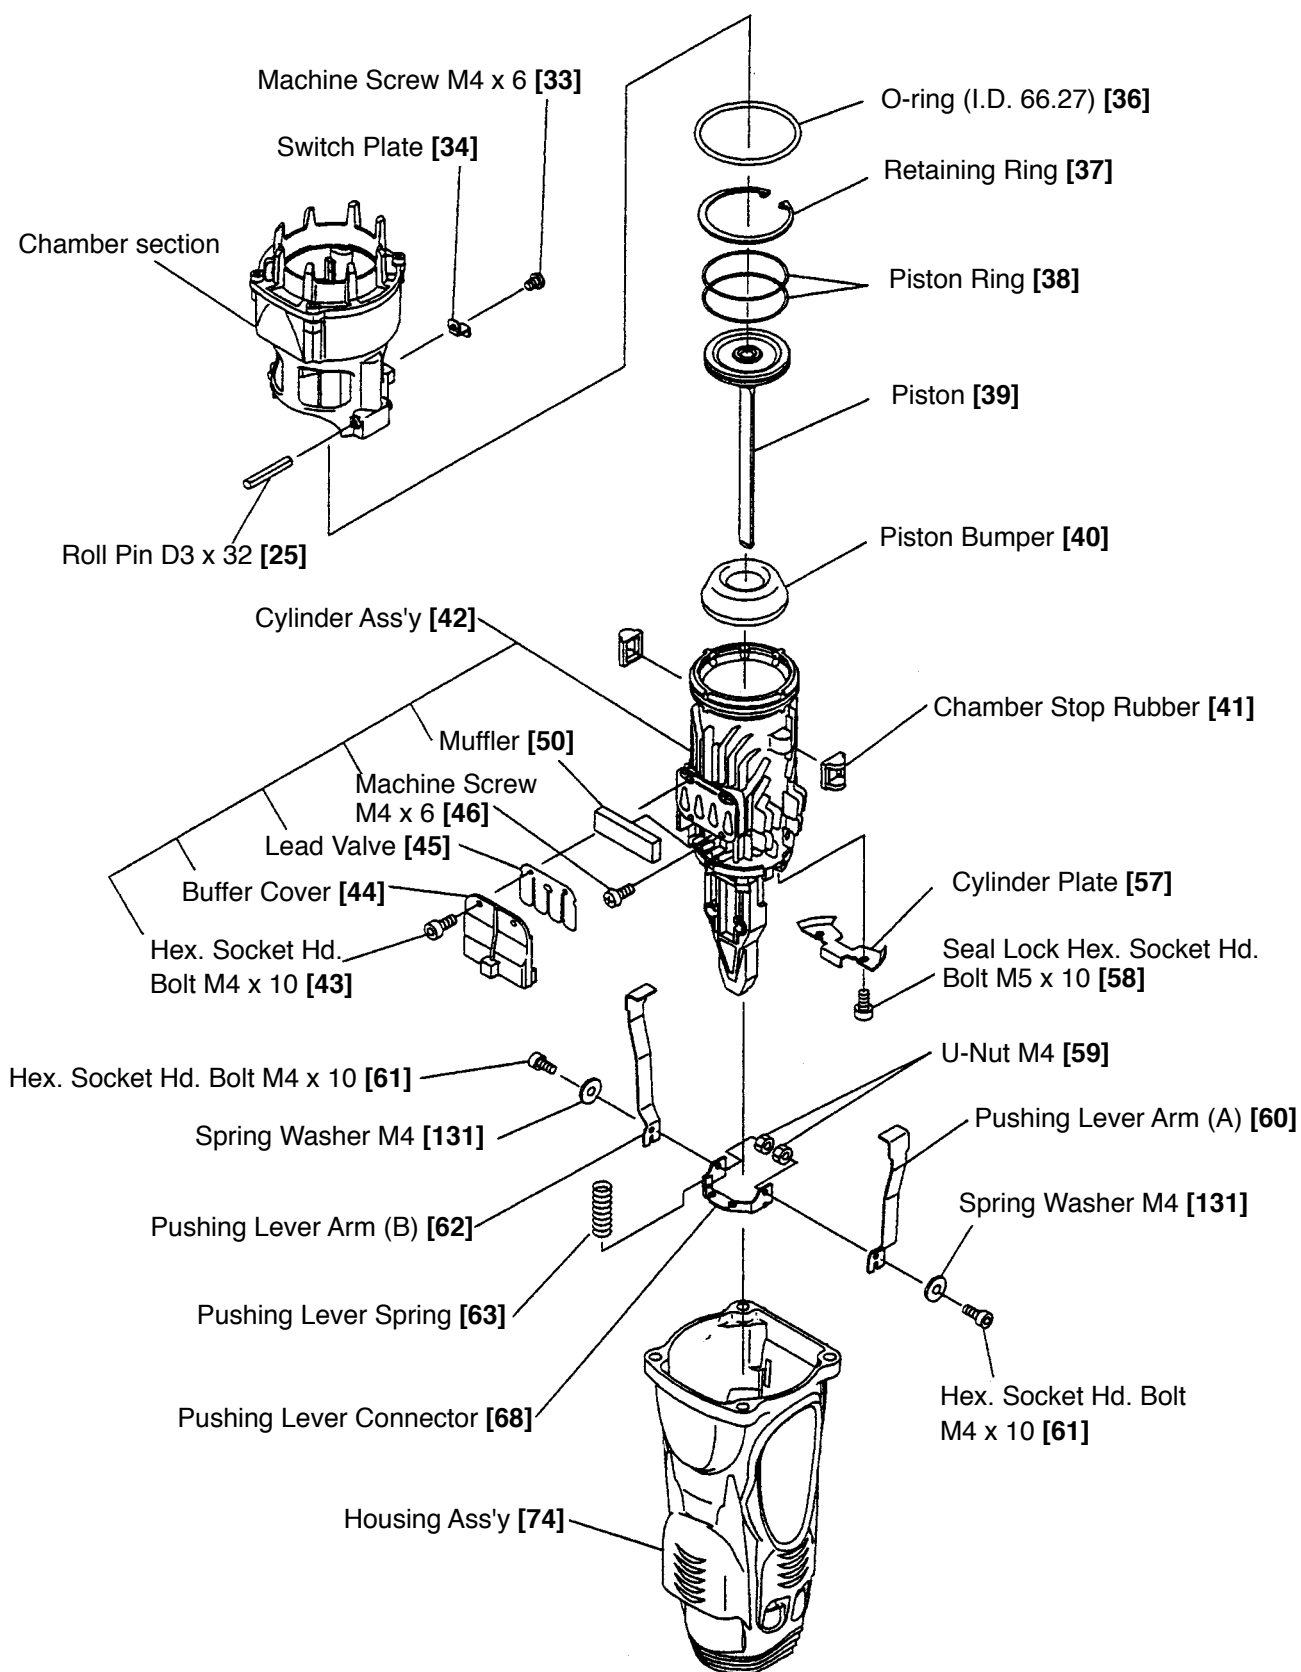

Fig. 33
(2) Disassembly and reassembly of the housing section (Fig. 33)